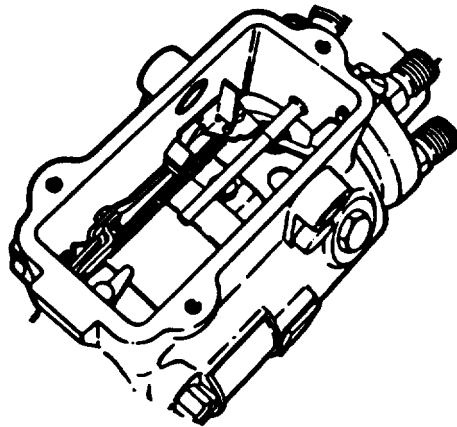

FIGURE 3-81. Installing Governor Linkage
- at. Pull back governor linkage hook (46, FIGURE 3-45), stretching spring (47) just enough to assemble hook correctly to fork on governor arm (44). Position opposite end of hook (46) over pin on arm of metering valve assembly (45), refer to FIGURE 3-81. Check all governor parts for freedom of movement.